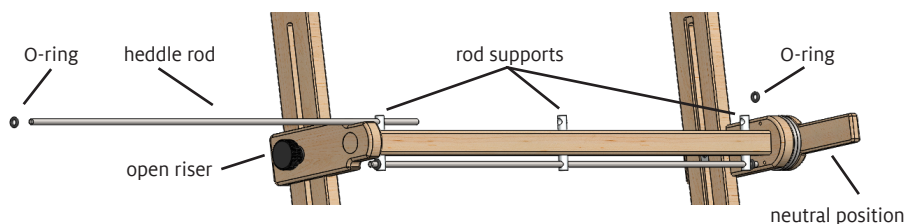

FIGURE 10: ADD THE HEDDLE RODS
10. Add metal heddle rods to the shedding device (Figure 10): You can complete this step when you install the Texsolv heddles. Set the handle in neutral position, parallel to the risers. From the open riser side, slide a heddle rod through all three rod supports and secure each end with a rubber O-ring. Repeat for the second heddle rod.